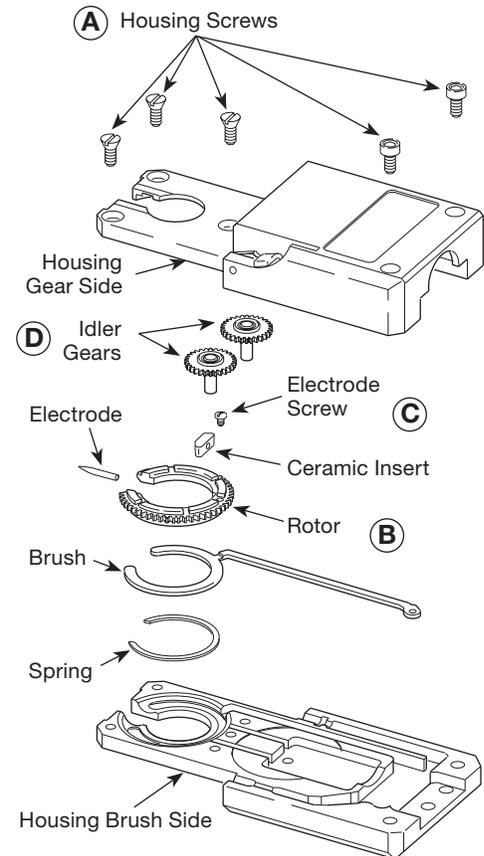

Figure 29 Removing Series 4 Micro Weld Head Components for Cleaning
To disassemble the Series 4 micro weld head for cleaning, use the following instructions. See Figure 29, 30, and 31 for part references.
2. Remove the five screws from the weld head housing. See Figure 29(A).
4. Remove the rotor by lifting it clear of the brush side housing. See Figure 29(B).
5. Loosen the electrode clamping screw, then remove the electrode and ceramic insert. See Figure 29(C).
8. Remove and inspect the two idler gears for damage. Replace if necessary. See Figure 29(D).
Note: Place the rotor on the brush with the electrode screw facing up. See Figure 29.